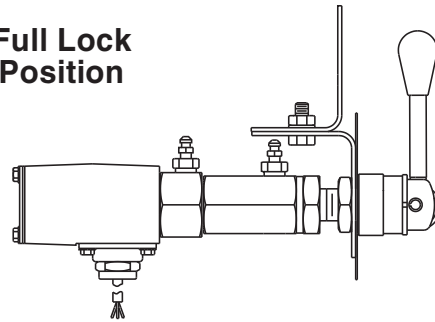

FIGURE 1
4. Move lever of MICO lock to full lock position as indicated on dash plate (Figure 1). Alarm will start. If alarm does not start, discontinue use of lock, determine cause and correct problem before using lock.